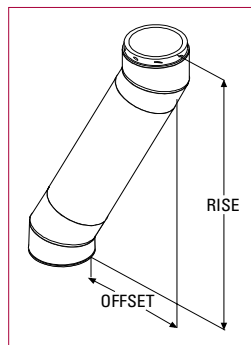

Figure 2
Step 4.	If an offset is required to avoid rafters or other obstructions, measure the horizontal distance required and the vertical height available. Both 15° and 30° elbows are available. Please note that 45° elbows are not allowed in the United States. Refer to the offset tables in the back of this catalog. Use elbow straps to ensure adequate support. See Figure 2.